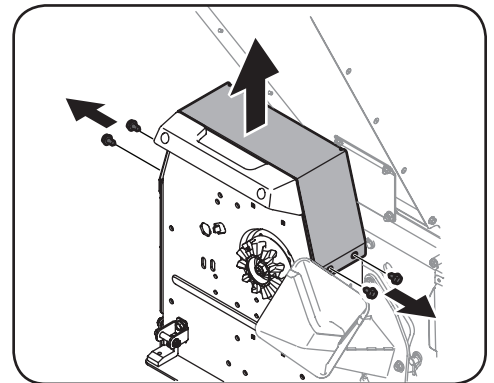

Figure 5-12
2. Remove the cover screws which secure the drive system cover. Retain hardware. See Figure 5-12.